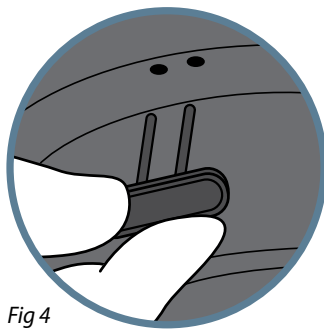

Fig 4
4. Remove cup holders, if applicable. Open the cooler lid using the key provided in the replacement kit (Fig 4).